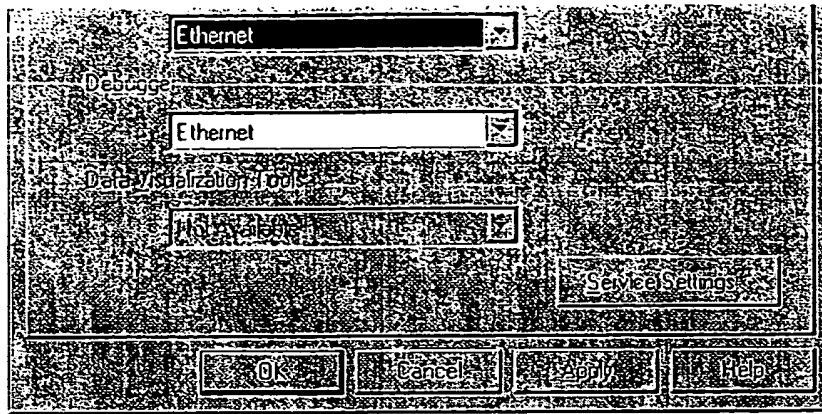

Figure 4. The Configure Remote Services dialog box
1. In the Platform Builder application, select **Configure Remote Services** on the **Target** menu. The **Configure Remote Services** dialog box appears (see figure 4).